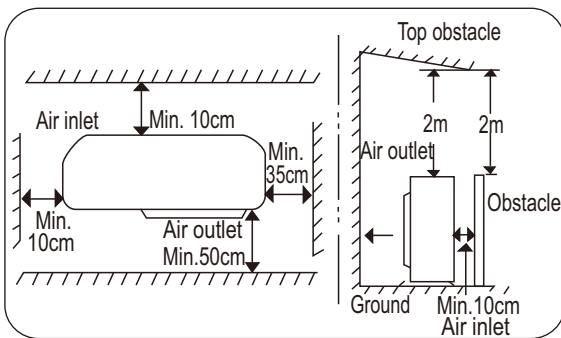

Fig.7.1
- Have required space for air inlet, outlet and maintenance. (Fig 7.1)